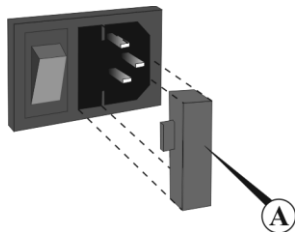

Figure 4. Fuse holder
- 9.3 **Fuse replacement.** Disconnect the unit and the power cable from the mains, then remove the power cable from the socket on the rear panel of the unit. Open the fuse holder (fig. 4/A). Check the fuse and replace if necessary. Fuse parameters - M 4 A (type **M** - time lag: **Medium**), rating 250 V.